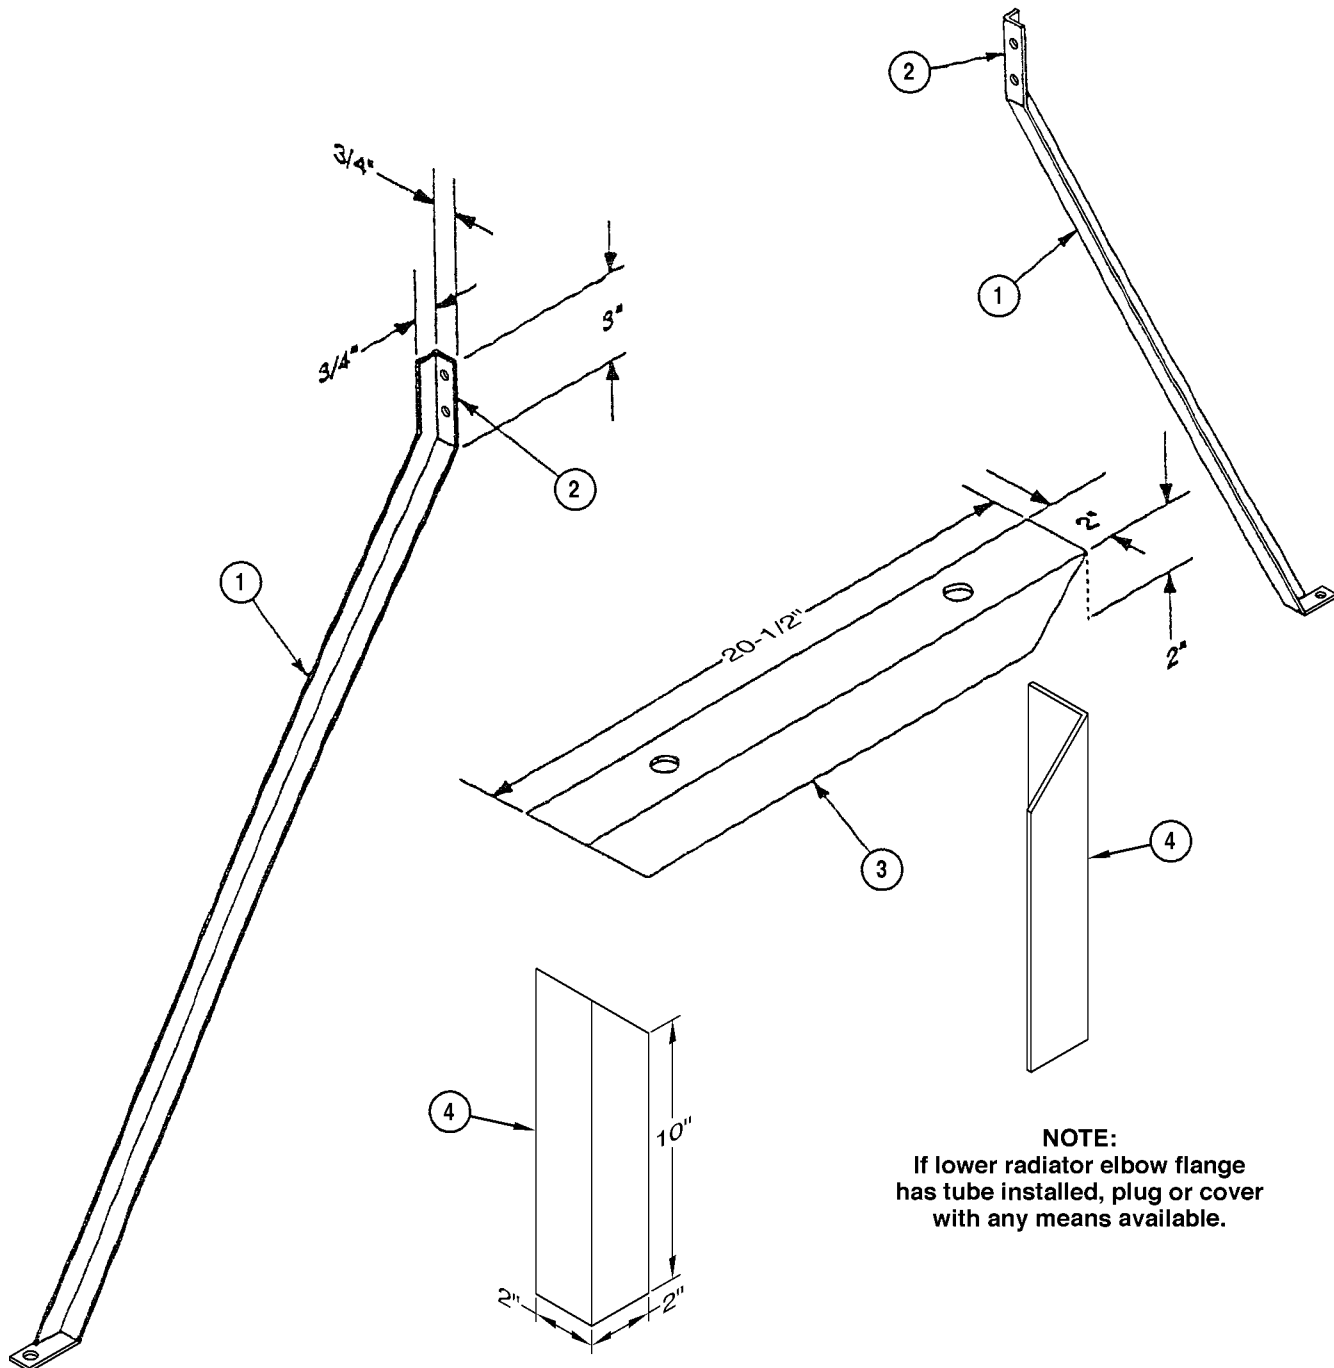

Figure 2-16. Radiator Bracket/Support
1. Cut two 1- by 1/4-inch flat bar (1), adjust length to height of radiator. Bend top and bottom of bar to fit against the top of radiator and floor of stand. See Figure 2-16.
2. Cut 3- by 2-inch by 1/4-inch steel angle 20-1/2 inches long (3) with 45° angle. See Figure 2-16.
3. Cut 2- by 2-inch by 1/4-inch steel angle 10 inches long (4) with 45° angle.
4. Measure studs on radiator of your choice. Use these dimensions to drill two holes in steel angle (3).
5. Weld two steel angles (4) to steel angle (3).